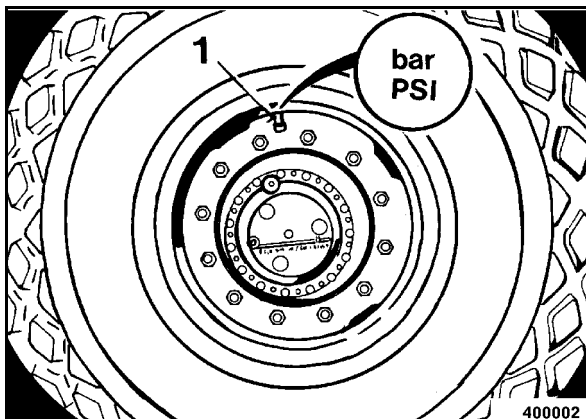

Fig. 63
- Check the tire pressure with a pressure gauge and the tire inflation valve 1 (Fig. 63) in top position.